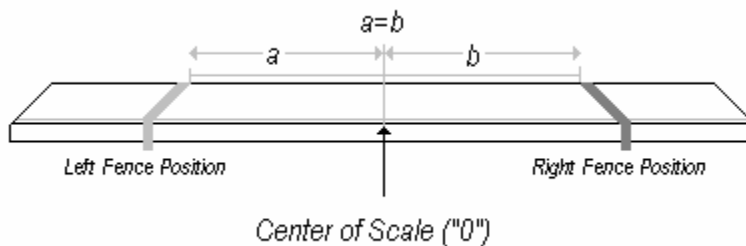

Figure 13
- The operator manually determines the placement of the first hanger and takes that measurement. The essential thing to remember is that the placement and measurement of the second hanger must mirror that of the first. Both fences must be positioned so that their corresponding edges are set to the same mark on either side of "zero." (See Figure 13 above.)